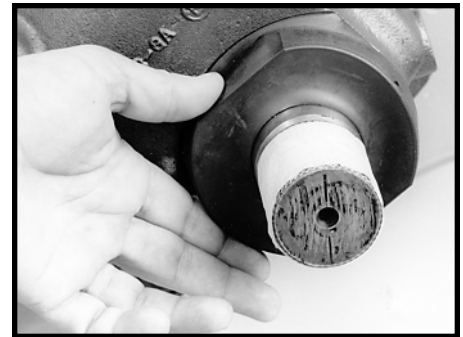

Figure 16
1.12 Apply a generous amount of the same grease to protector boot (63) in the area inside of the smaller diameter ring. Assemble protector boot onto sector shaft (50) and trunnion cover (26), locating the grease fitting hole toward the input shaft end of gear assembly. Insert grease fitting (64) into protector boot, if included. Remove tape from sector shaft serrations. SEE FIGURE 16.